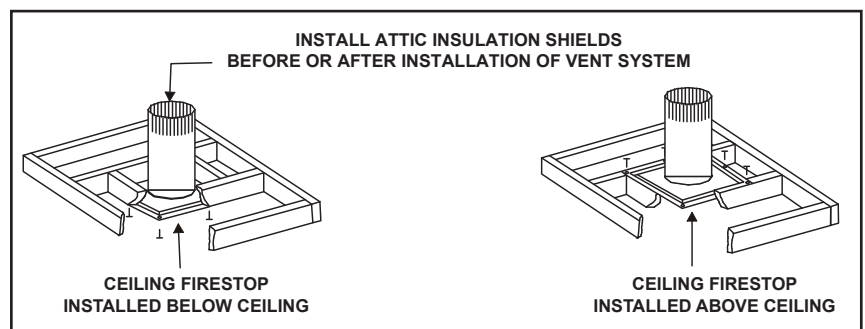

Figure 5.4 - Installing the Attic Shield
- The ceiling firestop may be installed above or below the ceiling joists when installed with an attic insulation shield. It must be under joists between floors that are not insulated, Figure 5.4.